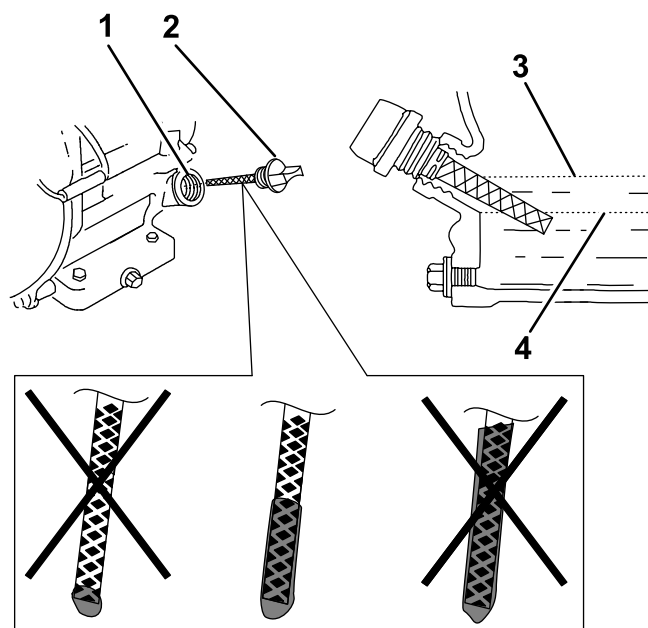

Figure 15
4. Remove the oil cap/dipstick and wipe the end clean (Figure 15).
5. Slide the dipstick fully into the fill port without threading it into the port (Figure 15).
6. Remove the dipstick and look at the end. If the engine oil level is low, slowly pour only enough oil into the fill port to raise the level to the Full mark on the dipstick (Figure 15).
7. Replace and secure the dipstick (Figure 15).